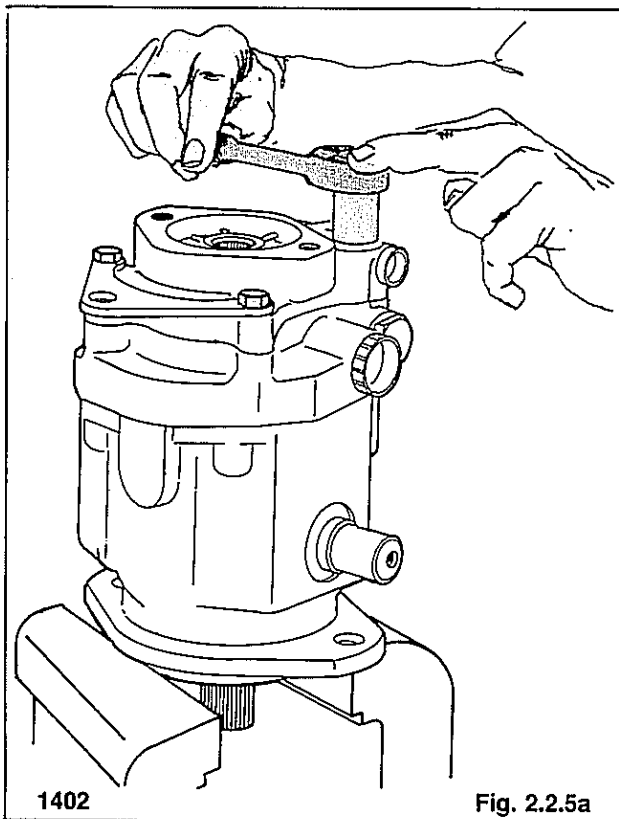

Fig. 2.2.5a
1. Remove the four cap screws and the pump support bracket from the pump assembly (fig. 2.2.5a).